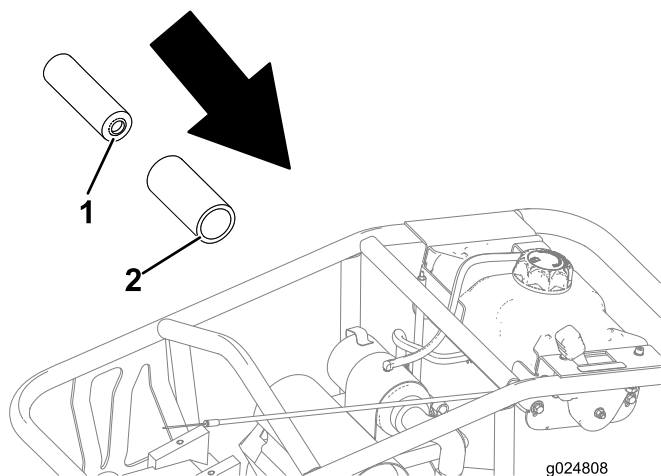

Figure 19
10. Install the air-cleaner elements and ensure that they are properly positioned (Figure 19).
Important: Ensure that the open end of the air-cleaner elements are facing inward toward the machine, as the machine will not run if the elements are not placed in the proper air orientation due to air restriction (Figure 19).